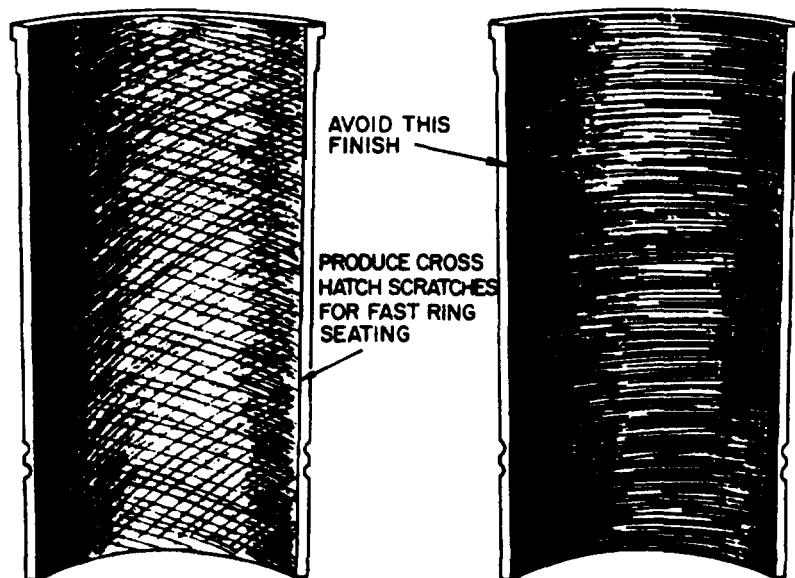

Figure 6-2. Correct Hone Finish (R GM D-K/I -1 O)
- (g) When the cylinder is approximately 0.002 inch (0.051 mm) within the desired bore, change to fine stones and finish the bore. The finish should not be smooth but as shown in figure 6-2. The crosshatch formed by the scratching of the stones should form an angle of 23 degrees. This can be achieved by moving the hone up and down in the cylinder about 40 cycles per minute.